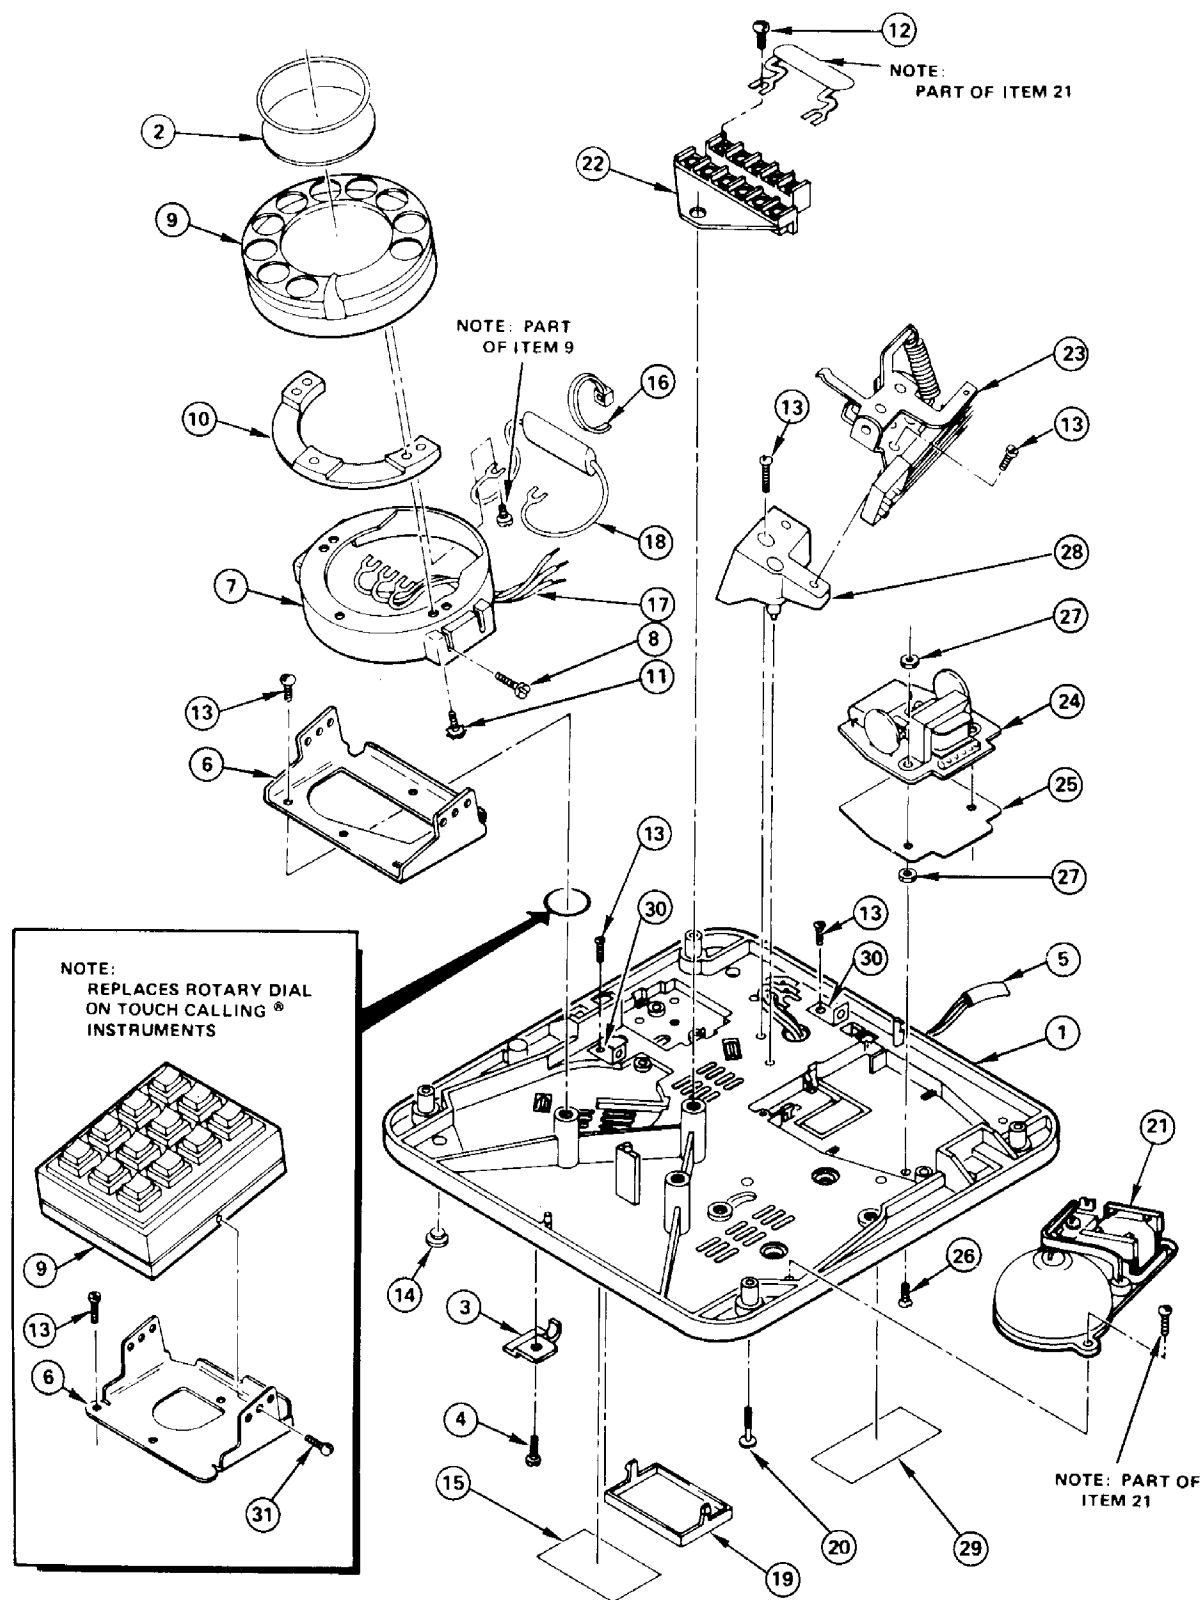

Figure 12. Mickey Mouse Telephone Base Assembly.
8.04 Replace the line cord as follows (refer to Table 12 and Figure 12):
- (b) Work the line cord (5) free from the retainer clip on the base (1) and detach the line cord lead lugs from the terminal board (22) connections.
- (c) Disengage the J-hook on the line cord (5) from the cord restraint bracket (30).
8.05 Replace the rotary dial as follows (refer to Table 12 and Figure 12):
- (b) Remove the four screws (8) securing the dial mounting platform (7) to the dial mounting bracket (6) and separate the dial mounting platform from the dial mounting bracket.
- (c) Detach the dial harness (17) lead lugs from the dial (9) electrical terminals.
- (d) Remove the three screws (11) that secure the dial (9) to the dial mounting platform (7) and separate the dial from the dial mounting platform. Set aside the dial spacer (10) and dial mounting platform.
8.06 Replace the Touch Calling unit as follows (refer to Table 12 and Figure 12):
- (b) Remove the two screws (31) securing the dial (9) to
8.07 Replace the hookswitch as follows (refer to Table 12 and Figure 12):
- (b) Detach the hookswitch (23) leads from the terminal board (22) connections.
- (c) Remove the two screws (13) securing the hookswitch to the hookswitch platform (28).
8.08 Replace the ringer as follows (refer to Table 12 and Figure 12):
- (b) Detach the ringer (21) leads from the terminal board (22) connections.
- (c) Remove the two screws securing the ringer to the base assembly (1).
8.09 Replace the transmission unit as follows (refer to Table 12 and Figure 12):
- (b) Detach the unit (24) leads from the terminal board (22) connections.
- (c) Remove the two nuts (27) securing the unit.